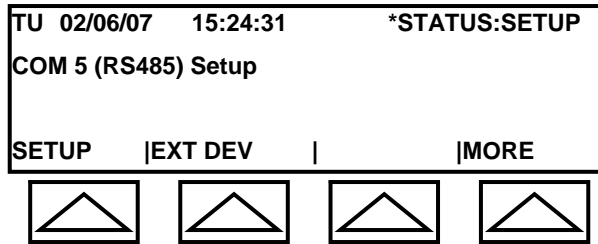

Fig. 4-14r: RS485 Submenu
1. Select RS485 in the Com Submenu (see Figure 4-14r).
The screen will appear as in Figure 4-14r.
- ◆ BACK – returns to Figure 4-14r.